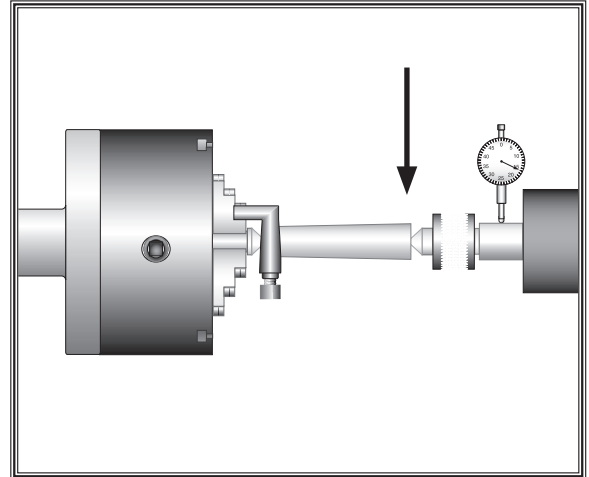

Figure 28. Tailstock adjustment option #1.
- If the stock diameter is thicker at the tailstock end, the tailstock needs to be moved toward you half the distance of the amount of the taper (see **Figure 28**).